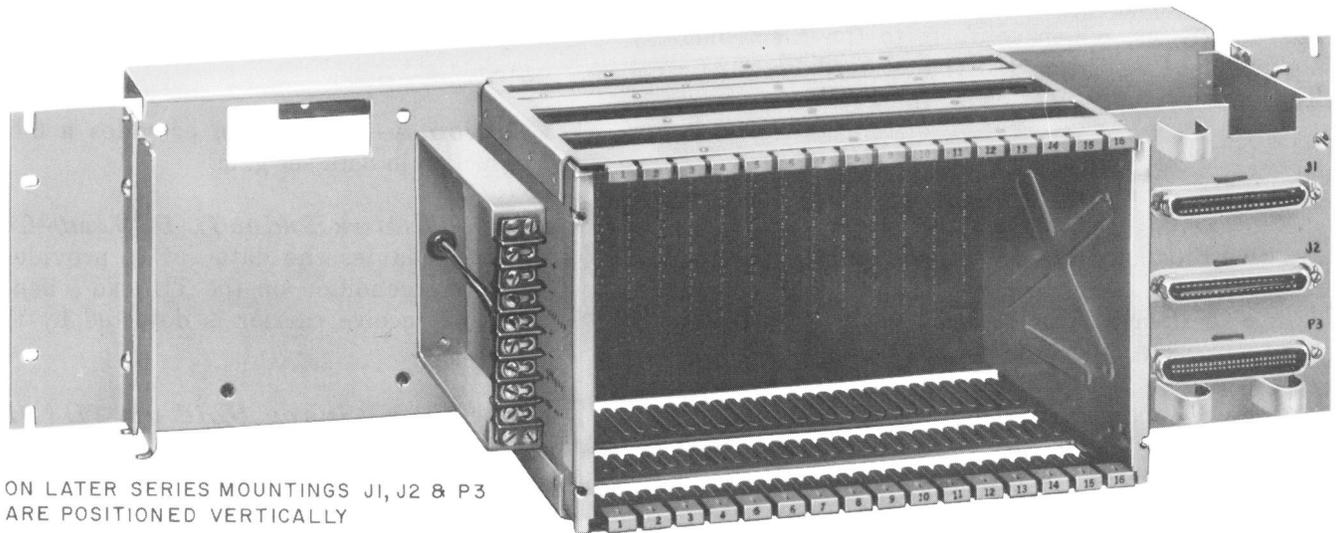

Fig. 3—28A1 Data Mounting
2.02 The 28A1 data mounting (Fig. 3) is approximately 6 inches high and 10 inches deep. It mounts on either a 23- or 25-inch rack and weighs approximately 15 pounds. The 28A1 data mounting consists of one 59C apparatus mounting, two KS-16786-L4 connectors, one KS-16671-L1 plug, sixteen 927D connectors, and one terminal block.